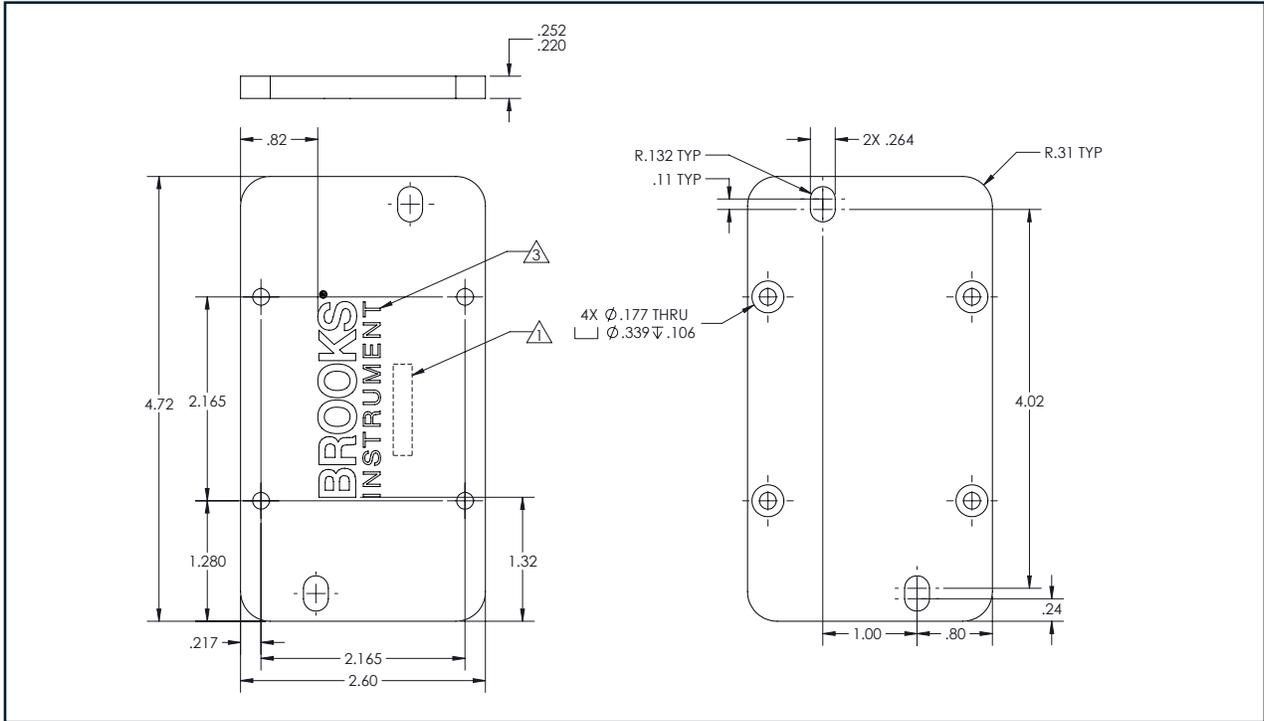

Figure 1-2 Dimensional Drawing BCU, Mounting Plate
An optional mounting kit (P/N 499Z037AAA) can be used if top screw mounting is preferred. The mounting kit comes with mounting plate (P/N 613H322BFT) and four (4) M4 x 10 BHCS screws (P/N 613H322BFT). See Figure 1-2 for reference.